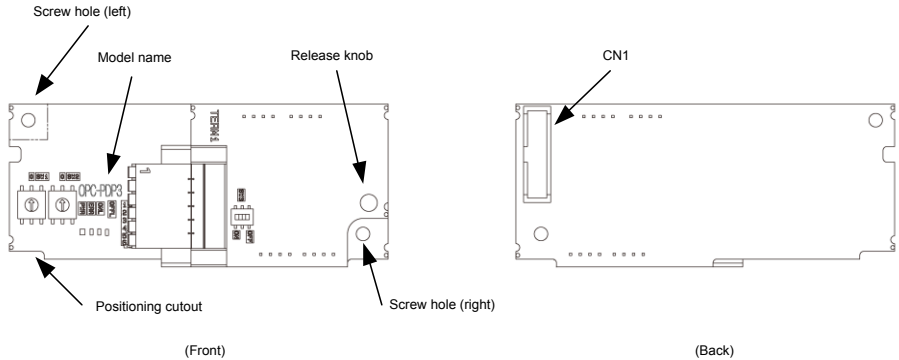

Figure 1.1 Names of Parts on PROFIBUS-DP Communications Card (OPC- PDP3)
- (1) A communications card, two screws (M3 × 8), and the PROFIBUS-DP Communications Card Instruction Manual (this document) are contained in the package.
- (2) The communications card is not damaged during transportation--no defective parts, dents or warps.
- (3) The model name "OPC- PDP3" is printed on the communications card. (See Figure 1.1.)